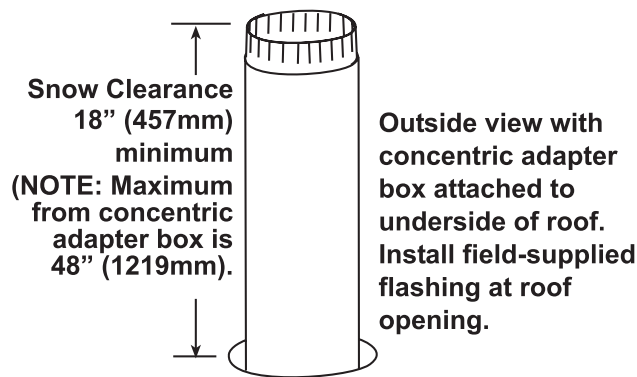

Figure 11. Combustion Air Pipe Through Roof
- a. Insert combustion air pipe through roof as shown in Figure 11.